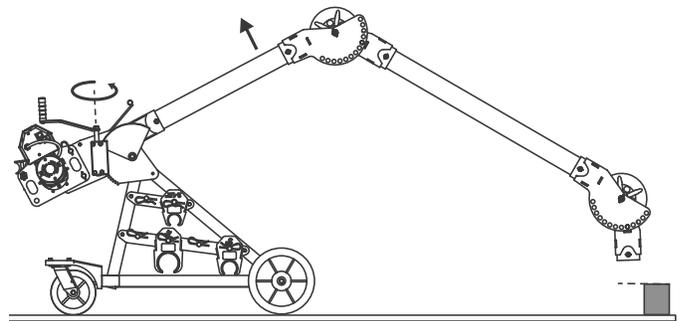

Figure 16: Adjust Back Boom to Position Nose Higher than Conduit
9. Turn the crank clockwise to raise the boom until the nose is just above the conduit to be pulled from. (Fig. 16)